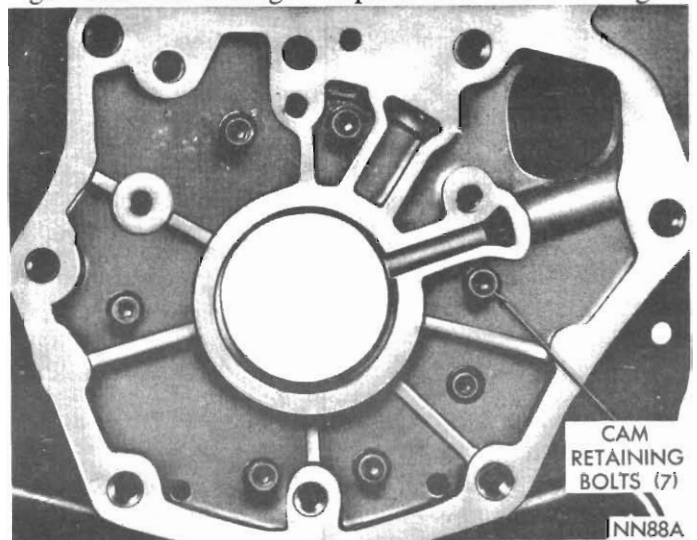
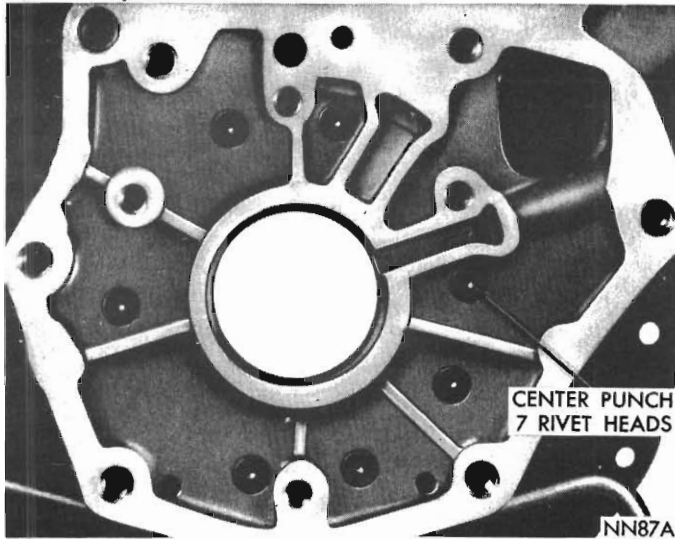

Fig. 87 - Cam retaining bolts installed (A-904)
Fig. 88 - Centre punch rivet heads (A-904)
(1) Remove four bolts securing output shaft support to rear of the transmission case. Drive support rearward out of the case with a wood block and hammer.
(2) Centre punch the rivets *exactly* in centre of each rivet head (Fig. 88).
(3) Drill through each rivet head with a  $\frac{3}{8}$  inch drill. *Be careful not to drill into the transmission case.* Chip off rivet heads with a small chisel, then drive rivets and cam from the case with a blunt punch of proper size.
(4) Carefully enlarge rivet holes in the case with a 17/64 inch drill. Remove all chips and foreign matter from the case, make sure cam area is free of chips and burrs.
(5) To install, position cam and roller spring retainer in the case. Align cam bolt holes with holes in the case, then thread all seven retaining bolt and washer assemblies into cam a few turns. The cone washers must be installed so inner diameter is coned toward the bolt head (Fig. 87).
(6) Tap cam firmly into the case if necessary. Draw retaining bolts down evenly, then tighten to 100 lbs. in.